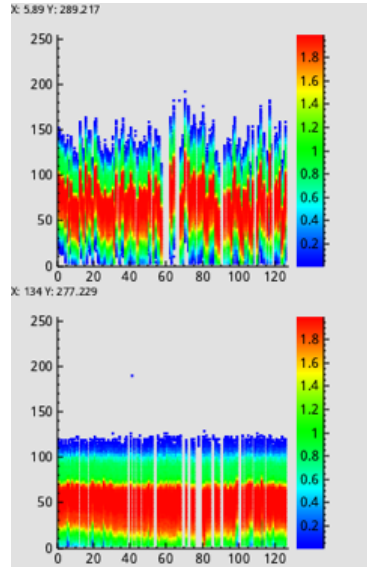

Figure 14. Channel comparator spread before and after alignment
1. Show spread: This will make a scan of the threshold DAC values for an input calibration charge equivalent to the desired thresholds. The plot shows if the thresholds are aligned or not as shown in Figure 14. There one can clearly see the all the channels will have the thresholds alinged that that particular target.